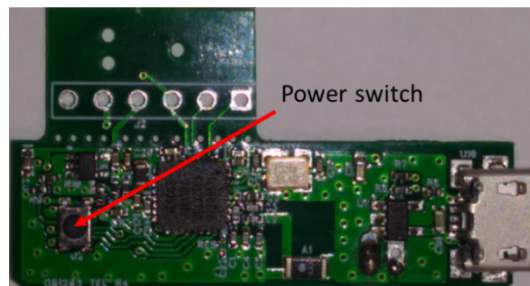

Figure 6. PCB Activation Switch
| Figure 6. PCB Activation Switch..... | 5 |
- e. Open app. Activate sensor board by pushing the activation switch (Figure 6). Keep finger off sensor to get a low data rate while pairing Android device with sensor. App asks for Bluetooth pairing. After pairing close app and reopen it.
3. Put your finger on the heart rate sensor. Apply pressure until the activation switch on the bottom side of the PCB (see arrow in Figure 6) clicks. Keep pressure until counter starts counting.